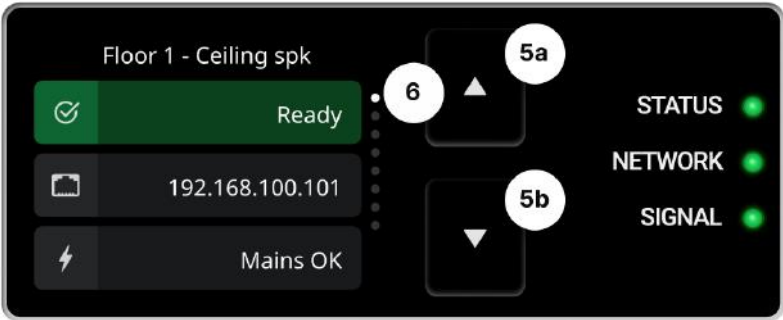

Fig. 1.2 - Navigation
Figure 1.2 shows the navigation elements of the display. Navigation buttons (5a, 5b) allow the user to navigate the pages (6). The last and first pages are continuously linked.